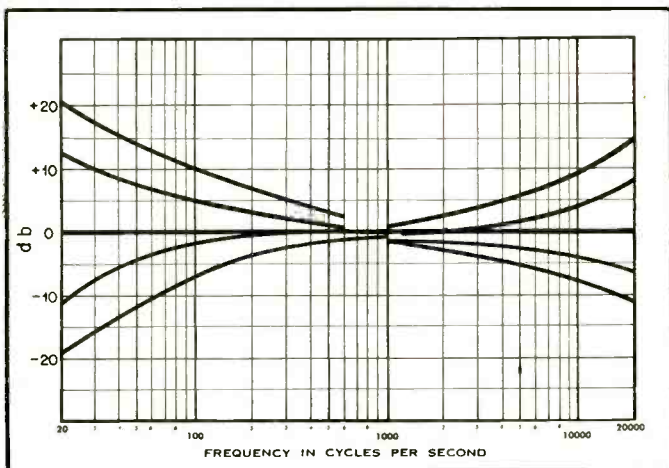

Fig. 3. Limit curves from the author's unit, with one intermediate curve shown to indicate trend of control operation.
have the same turnover frequency and initial slope as shown at (A) in Fig. 2. By changing the capacitor and leaving the resistor fixed we get curves which have the same slope but different turnover frequencies as shown at (B). Only by varying both R and C can we obtain the curves with different slopes which is the result usually desired. This makes it desirable to use a step-type control for treble boost and cut although in this case a single potentiometer would serve. By a special arrangement of switch wafers the resulting assemblies are quite compact. The maximum compensation and one intermediate curve are shown in Fig. 3.